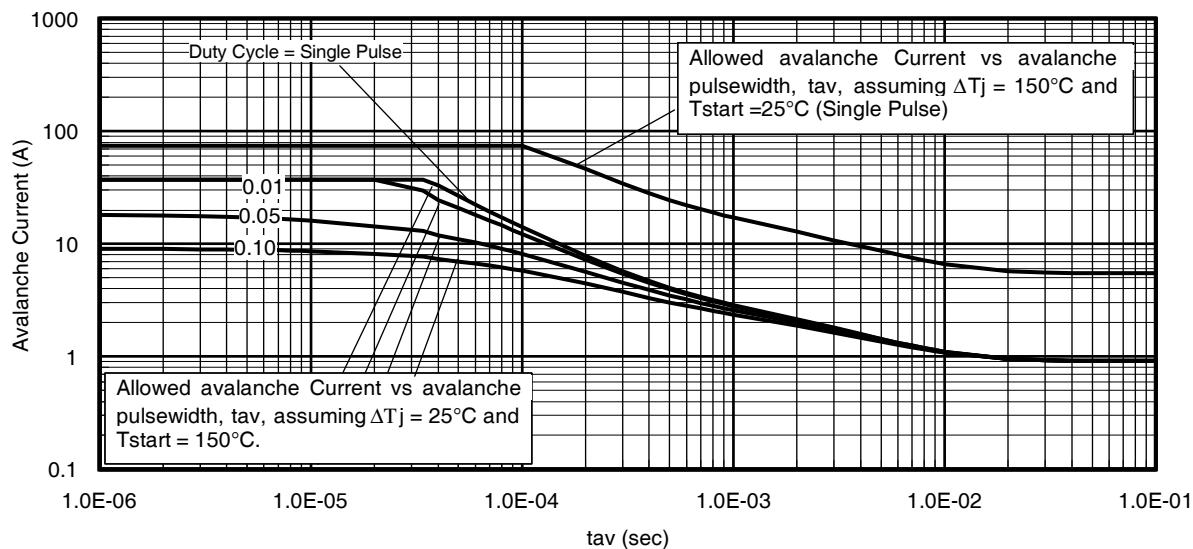

Fig 14. Typical Avalanche Current Vs.Pulsewidth
**Notes on Repetitive Avalanche Curves , Figures 14, 15:
7. $\Delta T = \text{Allowable rise in junction temperature, not to exceed } T_{jmax} \text{ (assumed as } 25^\circ\text{C in Figure 14, 15).}$